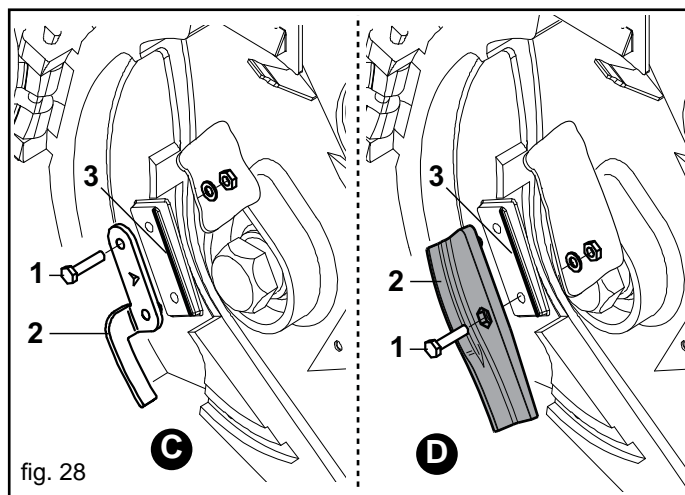

fig. 28
Use the light grey coloured seed expeller (C, Fig. 28) for small size seeds with an average diameter less than 3.5 mm (e.g. pelleted sugar beet seed). Use the black coloured seed expeller (D, Fig. 28) for medium size seeds with an average diameter from 3.5 to 7 mm (e.g. corn).
Loosen the screws (1, Fig. 28) and remove the expeller (2).
Assembly: Position the expeller (2) as shown in Figure 28. keeping the expeller pressed against the edge, obtained in the relative seat (3, Fig. 28), block it by the screw (1) kit. The screw is to be mounted only as shown in the picture. Do not interpose any thickness between the expeller and its seat. Make sure the expeller is flat against the seed disk but that it does not come in contact with the disk. Replace the expeller when worn.